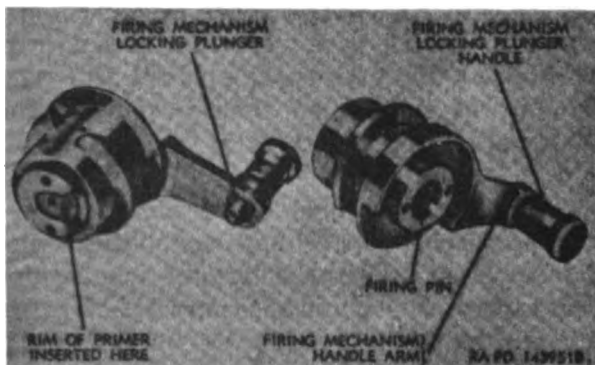
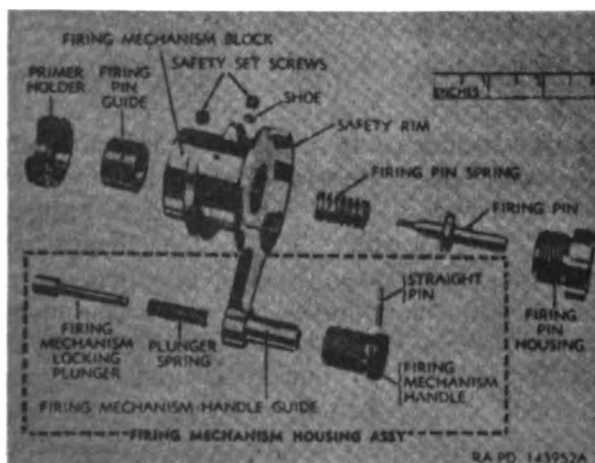
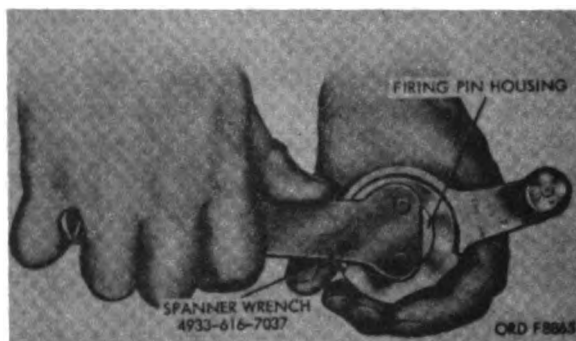

Figure 122. Firing mechanism M1—front and rear views.
Figure 123. Firing mechanism M1—exploded view.
Figure 124. Disassembling or assembling firing mechanism M1.
a. The firing mechanism M1 (figs. 122 and 123) consists of the firing mechanism housing assembly, firing pin, and related parts. The firing pin housing, firing pin guide, and the primer holder retain the firing pin position. Safety setscrews lock the firing pin housing and the primer holder in position. The firing mechanism M1 screws, as a unit, into the firing mechanism housing in the rear end of the breechblock carrier (fig. 86).
b. The firing mechanism housing assembly consists of a block to which is welded the locking plunger guide; the block is a cylinder with a safety rim extending around the major portion of the rear of the block. This rim prevents the percussion hammer from striking the firing pin (fig. 122) unless the firing mechanism M1 is screwed fully into the firing mechanism housing in the adapter with the locking plunger engaged.
d. The firing pin is held in the firing mechanism housing assembly by the firing pin housing at the rear and by the firing pin spring, firing pin guide, and primer holder at the front. The firing pin housing screws into the rear of the firing mechanism housing assembly and is locked by a safety setscrew. A copper shoe is inserted ahead of the screw to prevent damage to the threads of the housing. The firing pin guide fits, closed end forward, in the forward end of the firing mechanism housing assembly. The firing pin spring is compressed between the guide and the firing pin. The primer holder screws into the front of the firing mechanism housing assembly, holding the guide and spring in place. Its flanged front has a "U" shaped slot (fig. 122) to receive the flanged end of the primer. The primer holder is locked in the firing mechanism housing assembly by a safety setscrew (fig. 123). Holes are provided in the exposed heads of the holder and housing for insertion of the firing mechanism wrench during assembly and disassembly.
b. To remove the firing mechanism, pull the firing mechanism handle (fig. 122) to the rear against its spring pressure, and turn it counterclockwise to free the firing mechanism.
c. To install the firing mechanism in its housing, turn it clockwise into the housing until the firing mechanism handle arm (fig. 122) contacts the firing mechanism stop stud at the rear of the breechblock carrier (fig. 86) and the firing mechanism safety latch moves to the right.
a. Remove both safety setscrews from the firing mechanism housing assembly (fig. 123). Do not loosen the shoe under the setscrew for the firing pin housing. Unscrew (clockwise) the firing pin housing from the rear of the firing mechanism housing assembly, using the firing mechanism spanner wrench (fig. 124).
b. Remove the firing pin and the firing pin spring from the rear of the firing mechanism housing assembly (fig. 123). Push the copper shoe out of the setscrew hole if it has not already come out.
d. To remove the firing mechanism locking plunger, handle, and spring, drive out the straight pin holding the handle to the end of the locking plunger (fig. 123). When the pin is removed, the plunger and plunger spring may fly out of the handle guide and should be retained by the hand and removed. Remove the handle from the handle guide.
c. If the firing mechanism locking plunger is inoperative, the locking plunger spring may be broken. Disassemble the mechanism (par. 89) and replace the locking plunger spring (fig. 123), if it is defective.
a. Insert the firing mechanism locking plunger spring in the firing mechanism handle guide, from the front (fig. 123). Insert the small end of the locking plunger through the spring and guide, and push it in against the spring pressure. Place the handle on the end of the plunger and align the holes in the handle with the hole in the end of the plunger. Then install a 3/32 x 13/16 straight pin to fasten the handle to the plunger.
b. Place the firing pin guide (fig. 123) in the forward end of the firing mechanism housing assembly with the hollow portion of the guide toward the rear of the housing
c. Insert the firing pin spring into the firing pin guide through the rear of the firing mechanism housing assembly. Insert the rounded end of the firing pin into the inner end of the firing pin housing (fig. 123), and screw the housing (counterclockwise) into the rear end of the firing mechanism
housing assembly, using the firing mechanism spanner wrench (fig. 124). As the housing approaches its seat, it should be screwed carefully, making sure that the firing pin point properly enters its hole in the center of the guide. When the firing pin housing is firmly seated against the rear of the firing mechanism housing assembly, insert the copper shoe into the setscrew hole to protect the threads of the firing pin housing. Insert and tighten the setscrew.